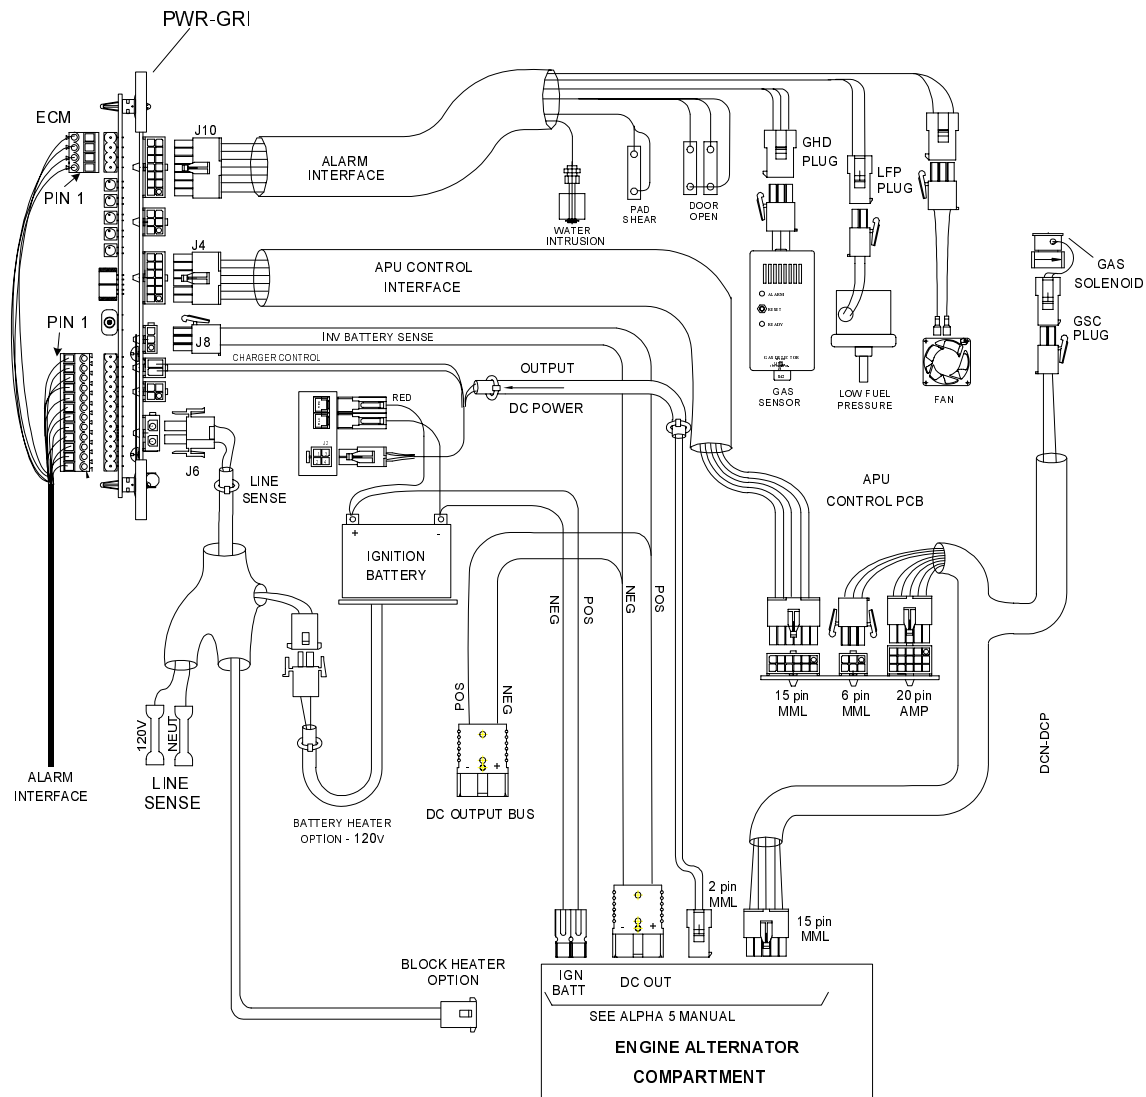

Fig. 4-1 ECM/APU Interconnection
The Gas Hazard Detector Interface Connector is connected between the wire harness and detector unit as shown. The interface control is a 3-pin (1x3 row) Universal Mini Mate-'N'-Lok style male connector. See Fig. 4-1 for location.
The interface control is a 2 pin Mini Mate N' Lok connector (Near gas solenoid). See Fig. 4-1 for location.
4.3.3 Solenoid (See Fig. 4-1 for location)
The Charger Module – Control Interface Connector is connected between the charger module and ECM with Sense/Power leads connected to the APU Output DC Bus. The interface control is a 4-pin (2x2 row) Universal Mini Mate-'N'-Lok style male connector. See Fig. 4-1 for location.
The Charger Output Interface Connector (J1) is connected between the charger module and the Ignition Battery as shown. The interface control is a 2-pole Anderson connector. See Fig. 4-1 for location.
See Fig. 4-1 for location.
The interface control is a 12 pin (3x4 row) Mini Mate-'N'Lok style connector. See Fig. 4-1 for location.